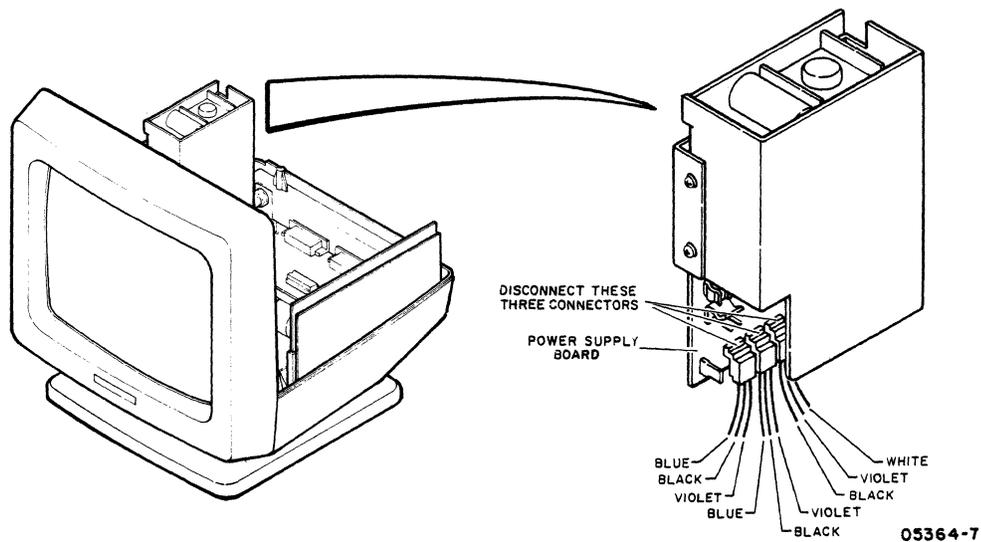

Figure 6B-6. Connection of Power Supply Output Connectors
5. Lift power supply straight up and disconnect three connectors from power supply board (figure 6B-6).
To replace the power-supply-to-main-logic-board cable, do the preceding steps in reverse order and action and refer to figure 6B-6 for connection of the three power supply board connectors.